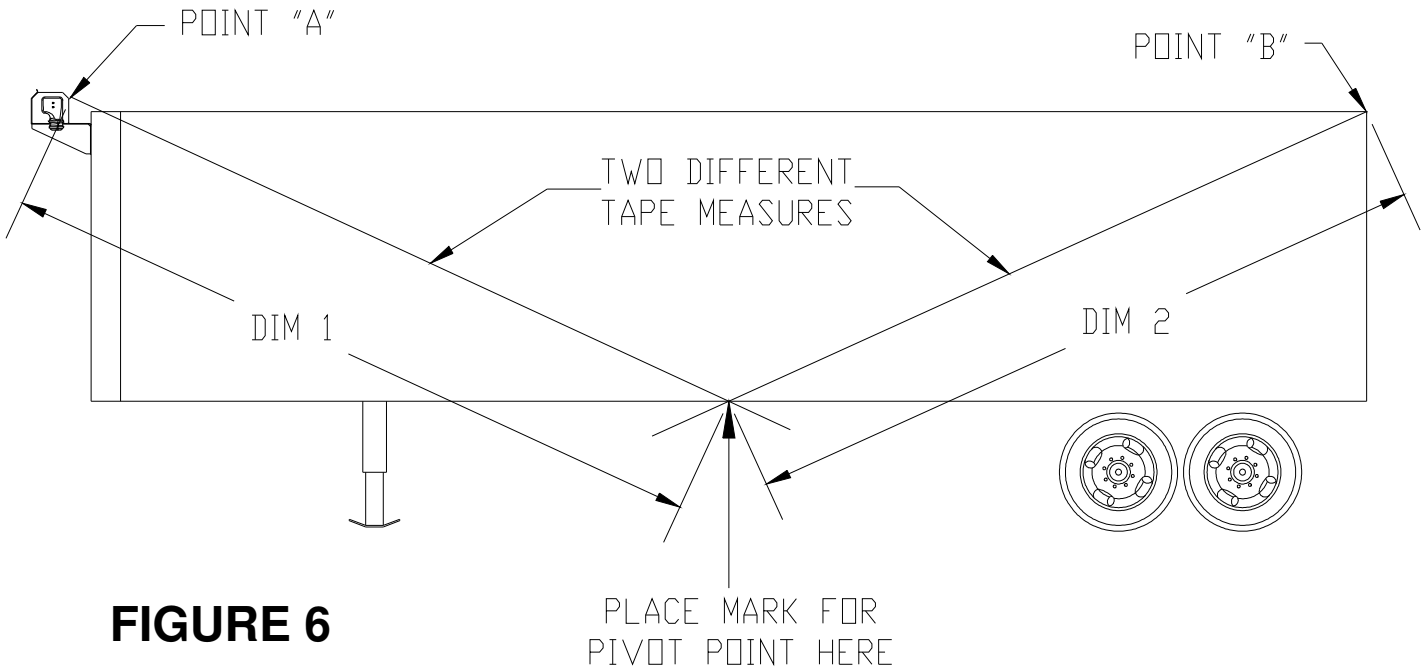

FIGURE 6
- To find the pivot point, pull one tape measure from point “A” (corner of housing assembly) and a separate tape measure from point “B” (rear of trailer). Cross the tape measures at the bottom-middle of the trailer body. Move point where the two tape measures cross until both distances (DIM 1 = DIM 2) on the tape measures are equal. **Write down this dimension below to be used later.** Mark the spot beneath the tape measures where they cross. This is your pivot point. (See Figure 6)
- Slide an upper bent tube into each end of the rear cross bar and into both arm extrusions. Adjust bent arms so that rear cross bar is centered between sides of trailer and parallel with rear of trailer. Rear cross bar should now be at point "B" as shown on figure 6 on page 6.